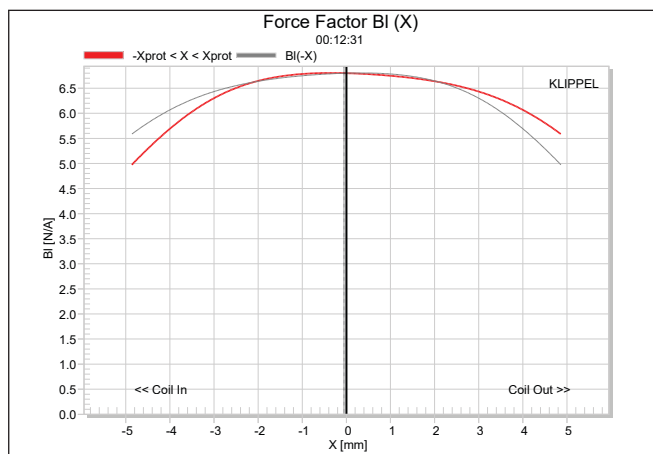
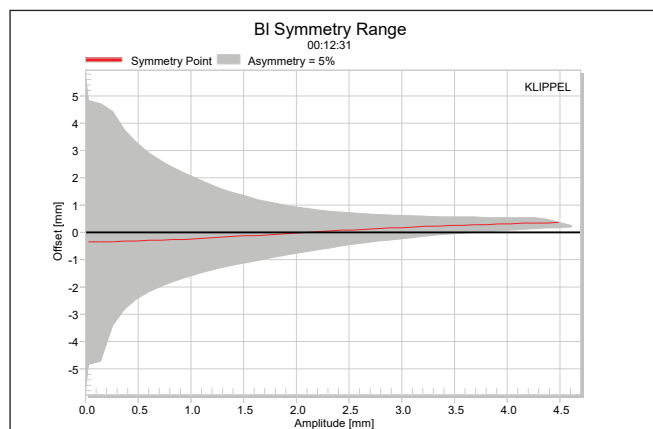

Figure 8: Klippel analyzer BI (X) curve for the MISCO MS-10W
Figure 9: Klippel analyzer BI symmetry range curve for the MISCO MS-10W
The BI(X) curve for the MS-10W (see Figure 8) is mostly symmetrical and moderately broad with a small amount of offset, but as you would expect for a moderate Xmax (3.85 mm) 6.5" driver. Looking at the BI symmetry range plot (see Figure 9), this curve is offset a trivial 0.16 mm coil-out offset at the position of reasonable certainty (narrow region of the BI curve) at 3 mm and increases only slightly to 0.28 mm coil-out offset at the driver's physical 3.9 mm Xmax.